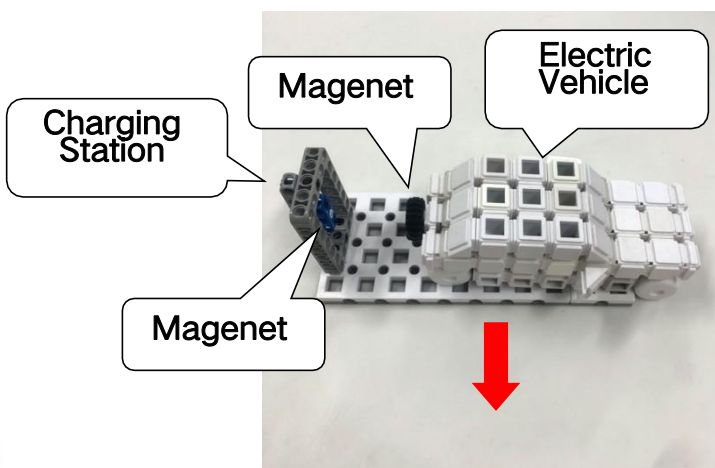

Figure 3-2-1 Initial Position
3.2.1 The wireless charging station model at its initial position can be placed anywhere on the 7 arena map locations. The red arrow shown below in figure 3-2-1 is pointing toward the same direction as the red arrows on the arena map shown in section 2.1. The model can be placed facing right to the red arrow as shown below, or can be placed facing left to the red arrow.